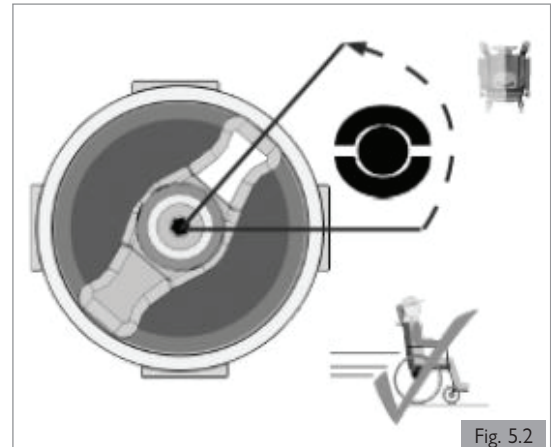

Fig. 5.2
1. For driving the wheelchair (Fig. 5.2).